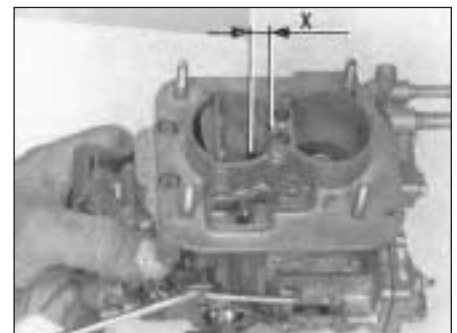

Fig. 3.32 Choke valve plate setting (Solex C30-32 CIC/1) (Sec 15)
10 Move the choke control lever to fully close the choke valve plate and then press the lean out valve rod. There should now be a gap (X) (Fig. 3.32) between the edge of the choke valve plate and the wall of the carburettor throat of between 4.75 and 5.25 mm (0.187 and 0.207 in).